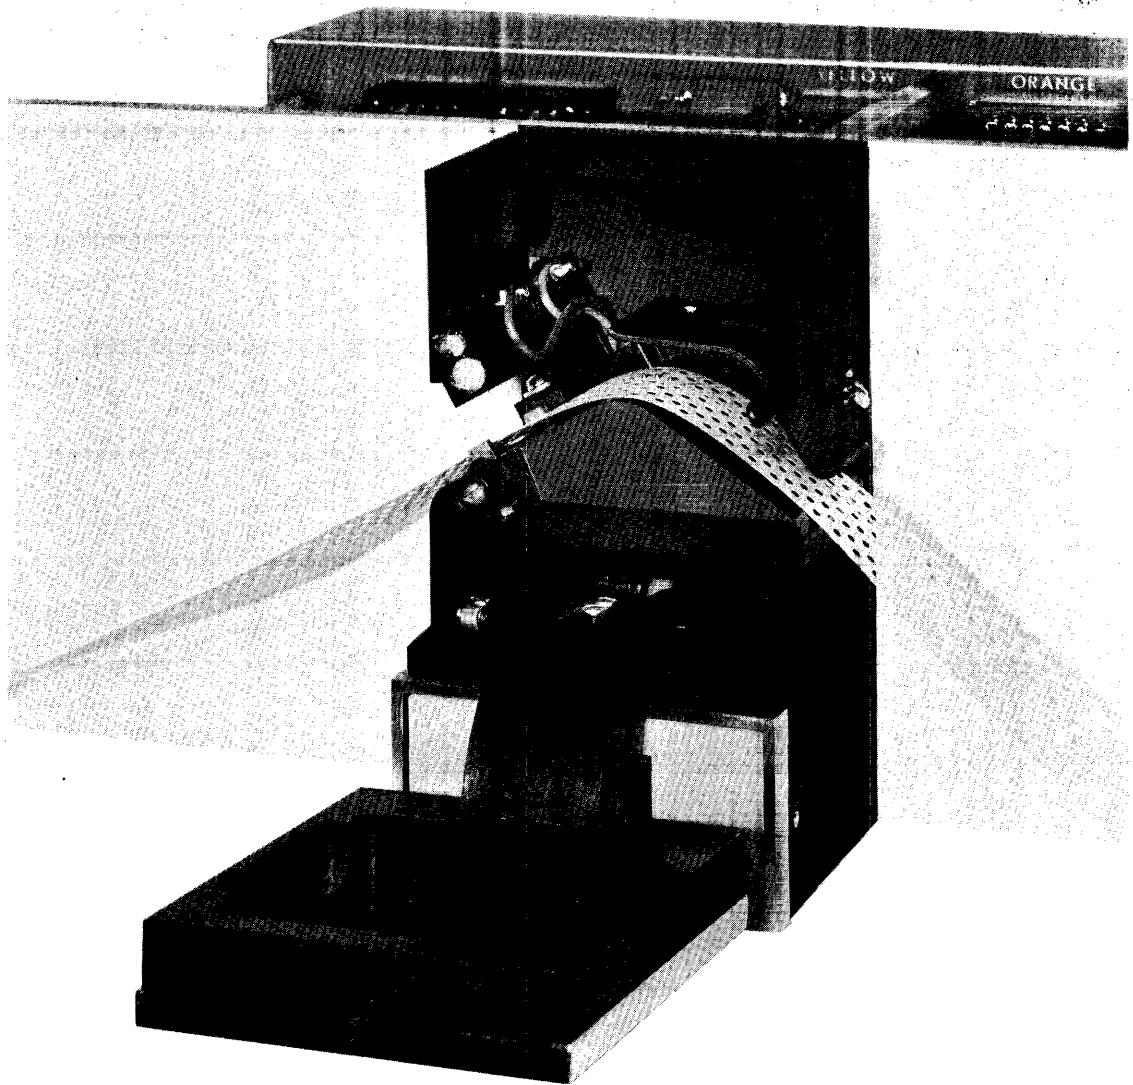

Figure 3-2. Tape Loading.
The following procedure should be followed when reading a tape. Refer to Figure 3-2 during the following descriptions.
- e. Insert the tape as shown in Figure 3-2.